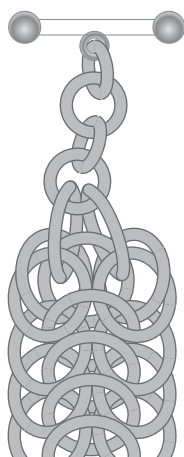

FIG. 2
9. Using the last 2 jump rings (3.5 mm), attach the 1-1-1 chain connected to the bar of the toggle clasp to the starting end of the bracelet following the instructions for the Round Maille finishing Method B (FIG. 2).